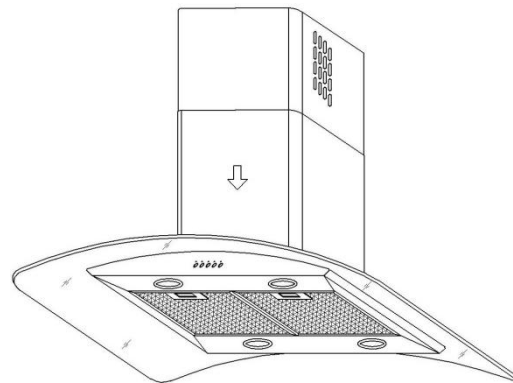

Fig. 11
- Unscrew the 2 screws **G**.and rest the lower chimney piece above the cooker hood (Fig.11).